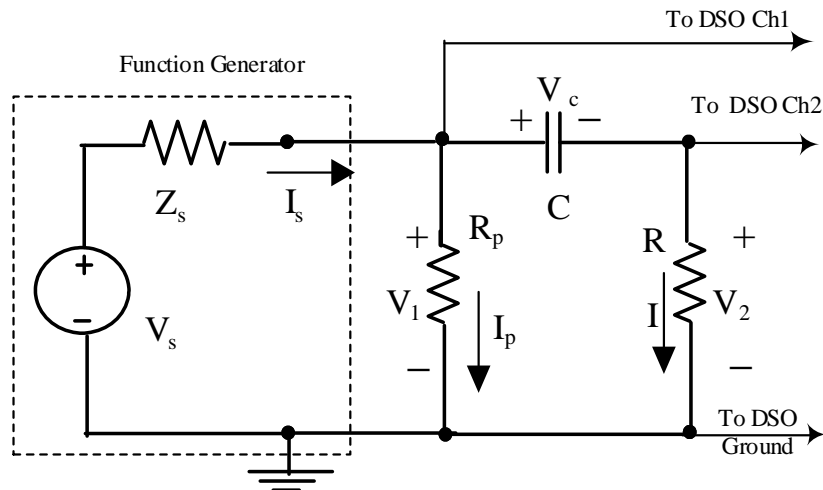
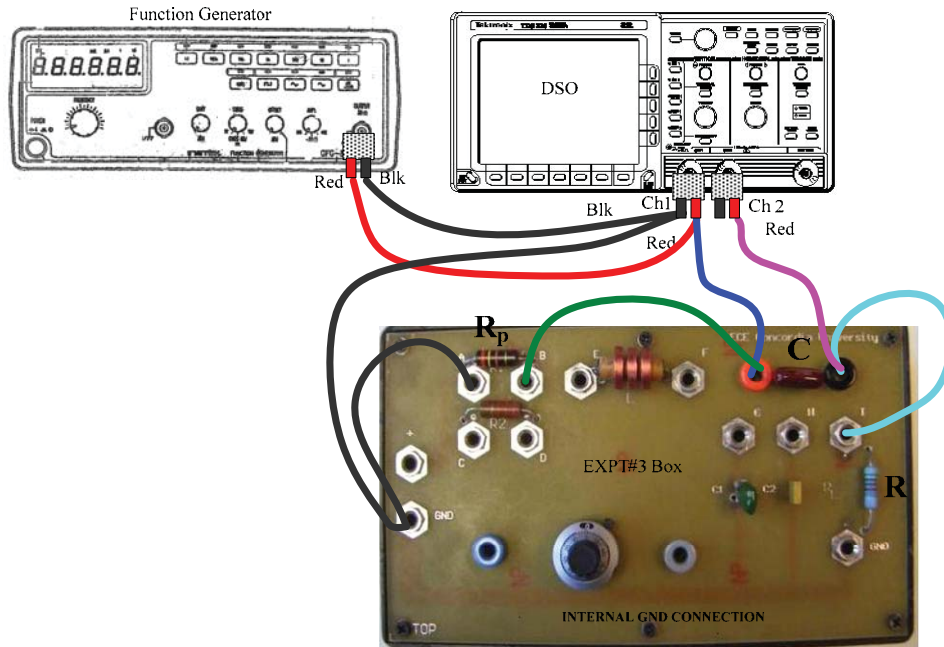
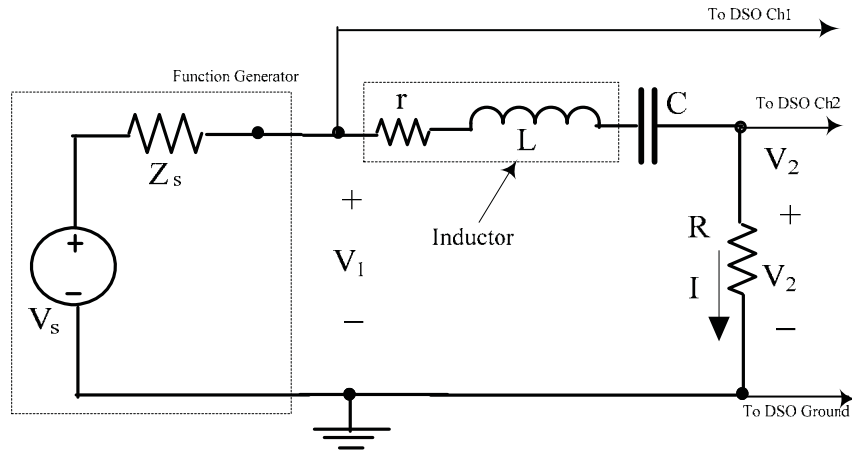
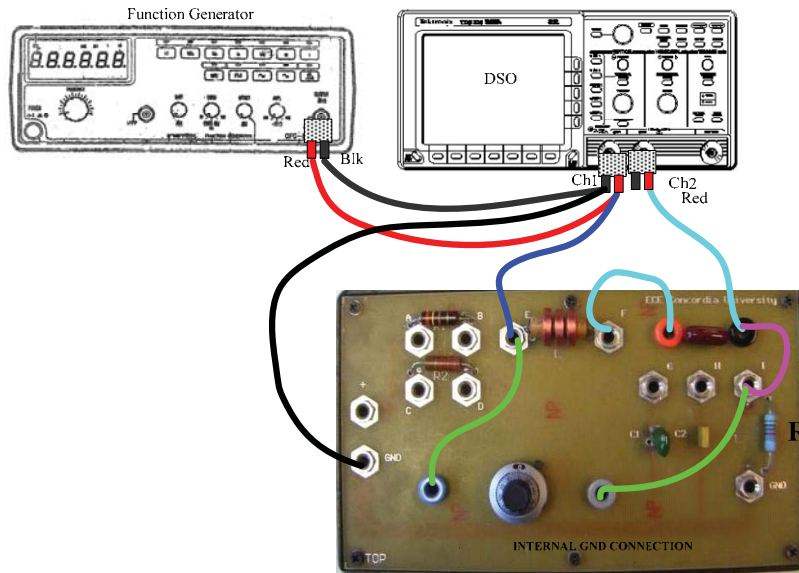

Figure 3.6
Figure 3.7: Test connections for the circuit of Figure 3.6
Figure 3.9
Figure 3.12: Test connections for measuring the impedance  $Z_x$
- 1 Consider the circuit shown in Figure 3.6. The function generator is shown as a TEC. Make these connections as shown in Figure 3.7 using the Expt#3 box. Where  $C = 220 \text{ nF}$ ,  $R = 511 \Omega$  and  $R_p = 240 \Omega$  (or  $200 \Omega$ ).
- Next, consider the series RLC circuit shown in Figure 3.9. Typical connections are shown in Figure 3.10 with  $C_{eq} = (220+100+50)nF = 370nF$  and  $R = 511\Omega$ . Make the connections shown in Figure 3.10 with the FG and DSO settings retained as in Step 2. **Note that the three C's are in parallel and terminal I is now used as the ground!**
(a) From the results of Step 3 draw a phasor diagram, with reference to Figure 3.6, showing the phasors  $V_1$ ,  $V_2$  and  $I$ . Calculate and plot the phasors  $V_c$ ,  $I_p$ , and  $I_s$  on the diagram. The diagram need not be 'to scale', but must show the correct phase relationships.
(b) From the results of Step 6 draw the two phasor diagrams at the frequencies  $f_1$  and  $f_2$ , with reference to Figure 3.9, showing the phasors  $V_1$  and  $I$ .
From the tutorial material given earlier, it can be seen that the data obtained in Part [A] can also be used to determine the impedance  $Z_{RC} = R + 1/j\omega C$  in the circuit of Figure 3.6 at  $f = 1$  kHz and the impedance  $Z = (R + r) + j[\omega L - 1/\omega C]$  in the circuit of Figure 3.9 at the chosen frequency  $f_1$  or  $f_2$ . We shall obtain these impedances.
In addition, the 'test impedance'  $Z_x$  of a series-parallel element combination will be found to illustrate further the determination of  $Z$ . The circuit for the 'test' impedance, shown in Figure 3.12, is a modification of the one in Figure 3.9: a variable resistance  $R_v$  is added in parallel with the LC combination.  $R_v$  is obtained using the on-board  $10k\Omega$  variable resistor (10-turn
potentiometer). Typical connections for the modified circuit, using the potentiometer for  $R_v$ , are shown in Figure 3.12. [ If desired  $R_v$  can be a fixed value resistor of an appropriate value]
7. Make the connections shown in Figure 3.12. Set  $f \approx 3 \text{kHz}$  ,  $V_1 \approx 2 \text{V rms}$  and  $R_v = 1560 \Omega$  (1.5 CW dial turns from zero). **Obtain a printout** showing  $V_1$  ,  $V_2$  ,  $f$  and  $\Delta t$  .Enter the values shown on **your** printout into the Lab Record.
**Phasor relation & Z determination : Figure 3.6, Steps 1 to 3**